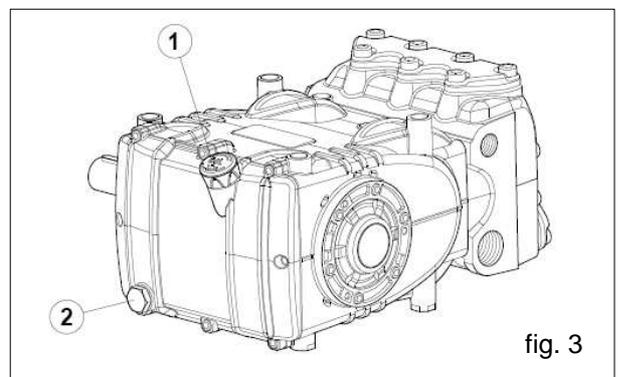

fig. 3
Check the oil level using the oil level dipstick ① fig.3; refill if necessary.
Correct oil level inspection is done with the pump at room temperature; oil is changed with the pump at working temperature, by removing the oil drain plug ②, fig.3 and the oil level dipstick ①, fig.3.